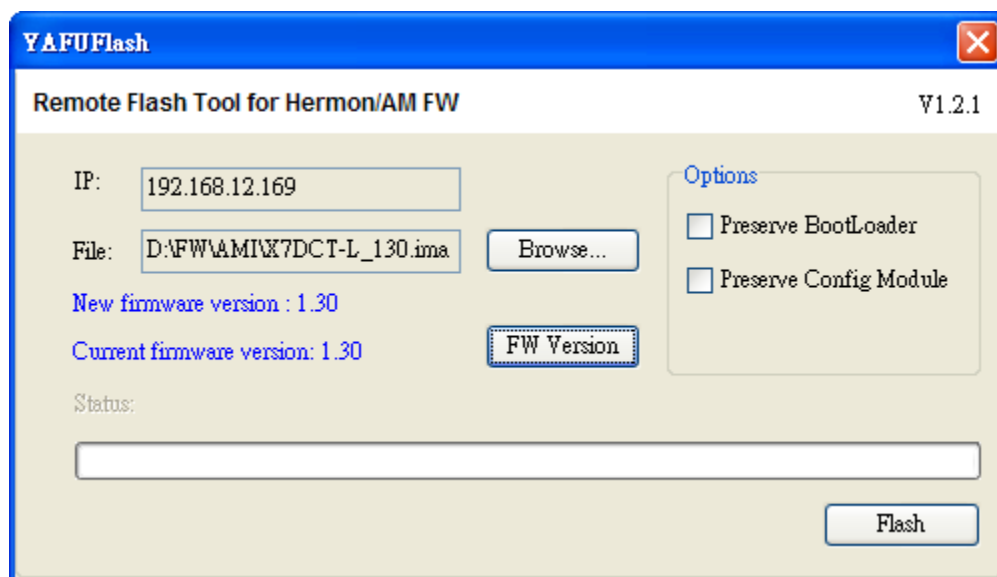

Figure D-5
4. Check the current firmware version. The current firmware version will be displayed as shown in Figure D-5.